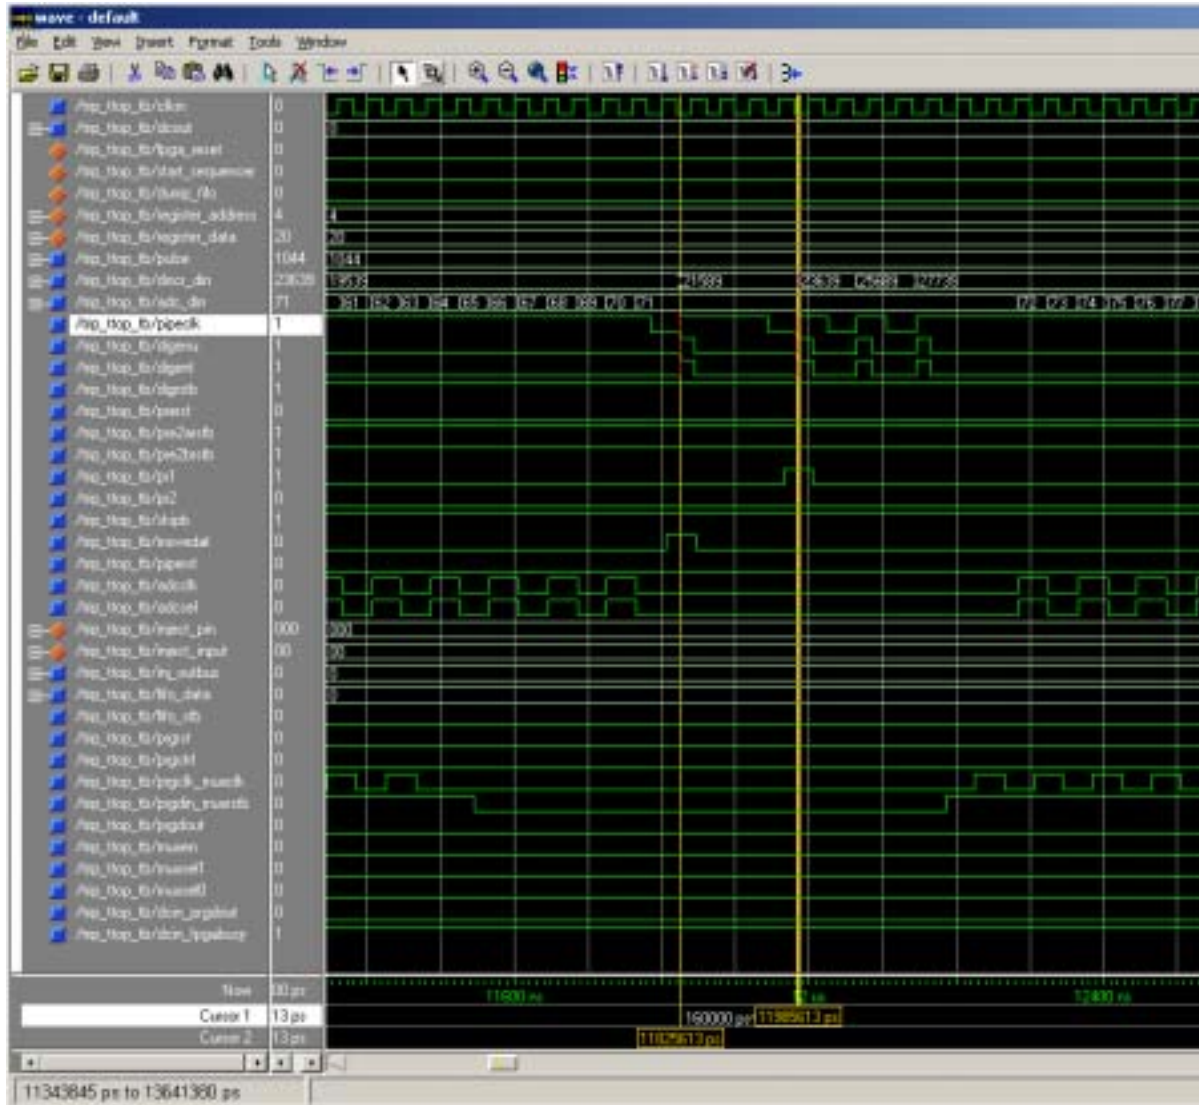

Figure 3 End of one SKIPB associated readout and beginning of the next one.
9. Figure 3 shows the end of the readout associated with the first SKIPB trigger and the beginning of the readout associated with the second SKIPB trigger. The chaining of